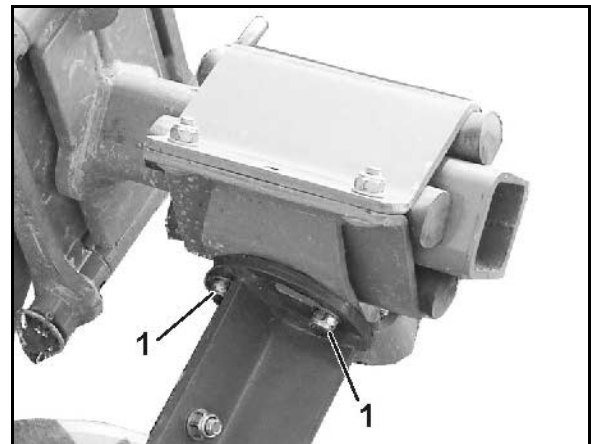

Fig. 33
2. Undo three screw joints (Fig. 33/1).